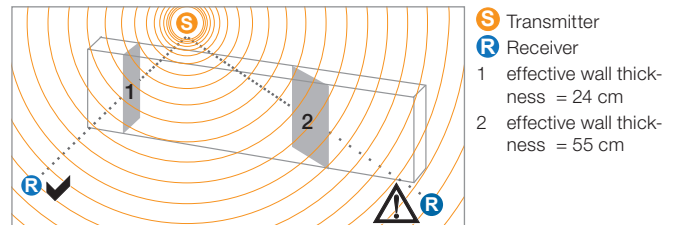

Bild 3: Effective wall thickness for radio propagation
- The connecting line between the radio transmitter and the radio receiver should be selected so that any path through masonry or other attenuating materials is as short as possible (see Figure 3). It is particularly important to avoid niches in walls, since they obstruct the propagation of radio waves.